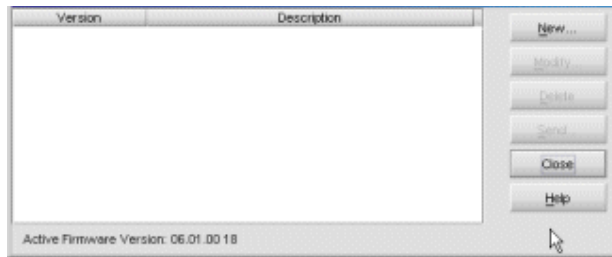

Figure 55: Firmware Library dialog box
3. Select the **Firmware Library** option from the Maintenance menu. The Firmware Library dialog box displays (Figure 55).
3. Choose **Maintenance > Firmware Library**. The **Switch Firmware Library** dialog box displays (Figure 55).